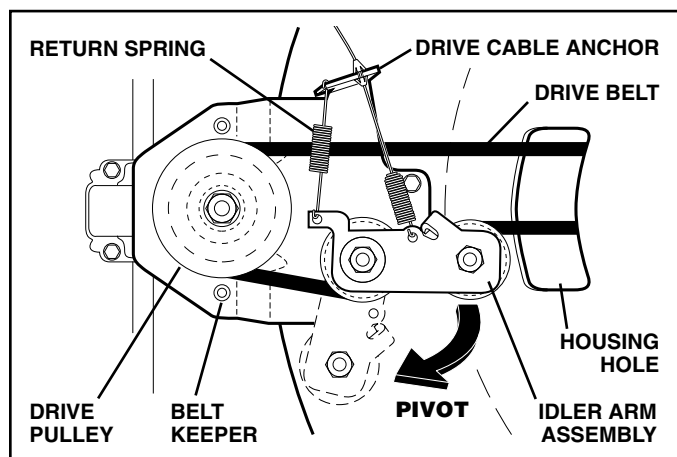

FIG. 19
3. Remove drive cable from anchor, then detach it and return spring from idler arm assembly (See Fig. 19).
9. Install new drive belt into idler arm assembly, then around the drive pulley. Be sure belt is inside of belt keepers (See Fig. 19).